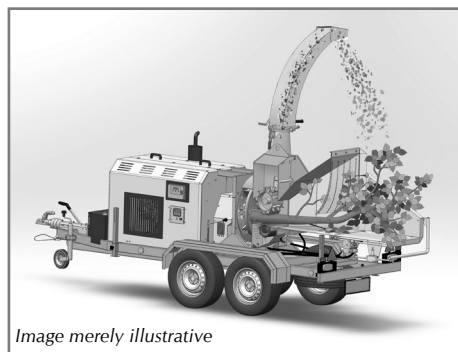

Figure 13
- ✓ After testing the triggering of the feeding rolls, the funnel lid may be lowered, locked with the locking pins, and the material may be inserted into the feeding funnel, as per Figure 13.